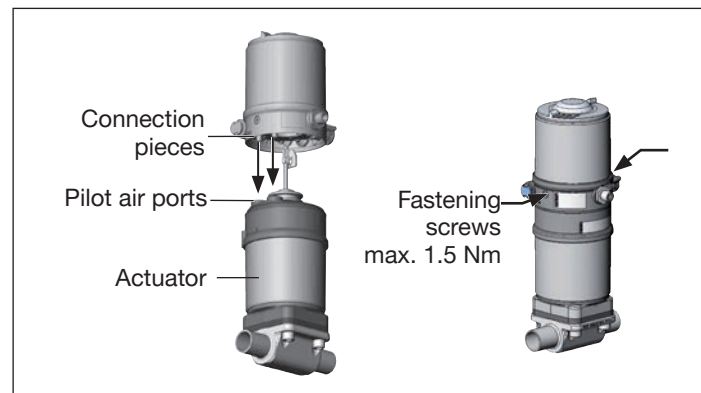

Fig. 8: Installation of control head, 21xx series
2. the connection pieces of the control head can be inserted into the pilot air ports of the actuator (see also “Fig. 8”).